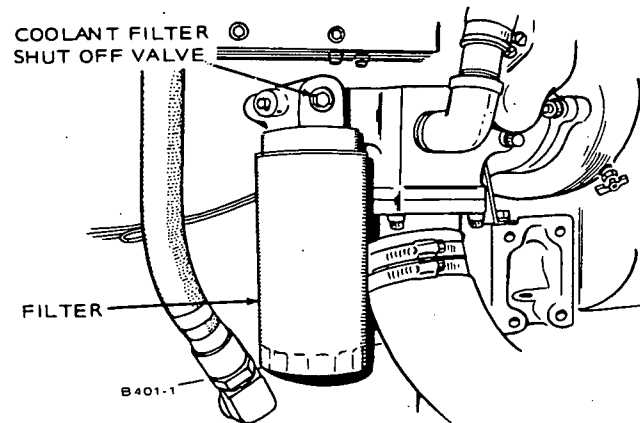

FIGURE 28. COOLANT FILTER
**Coolant Filter:** A shut off valve (see Figure 28) is installed in the coolant filter housing to be closed, for minimum coolant loss when the filter is removed. Refer to engine manufacturer's manual for coolant filter replacement information.